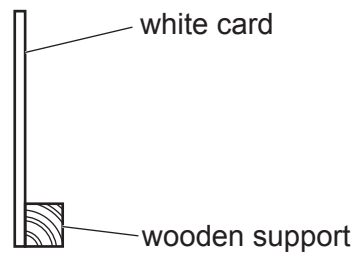

Fig. 3.2
- 2 The screen can be made from a sheet of white card, approximately 15 cm × 15 cm. Some means of supporting the screen vertically must be provided (e.g. fixing the white card to a small block of wood – see Fig. 3.2)